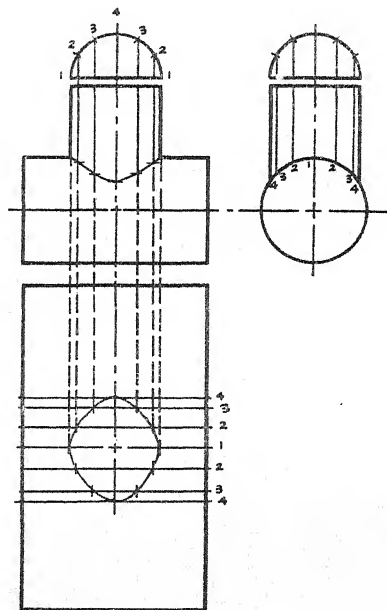

Figure 260. — Stretchout of the main pipe in the T-joint.
11. Now, using the circumference and length of the main pipe for dimensions, draw the stretchout for the main pipe as shown in figure 260.